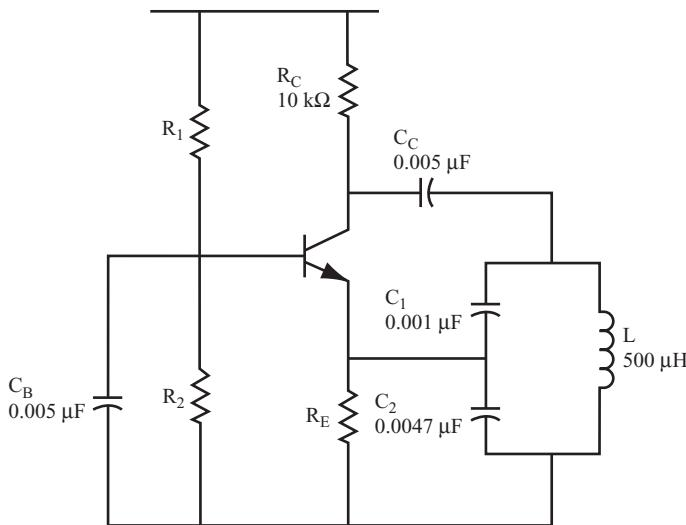

FIGURE 9.38
7. The circuit is shown in Figure 9.38.
- 34 The circuit you designed in problem 33 is shown in Figure 9.38.
- 9.** For the circuit shown in Figure 9.38, calculate the values of C_1 , C_2 , C_C , and C_B for an oscillator with an output frequency of 10 kHz using a 100 mH coil.